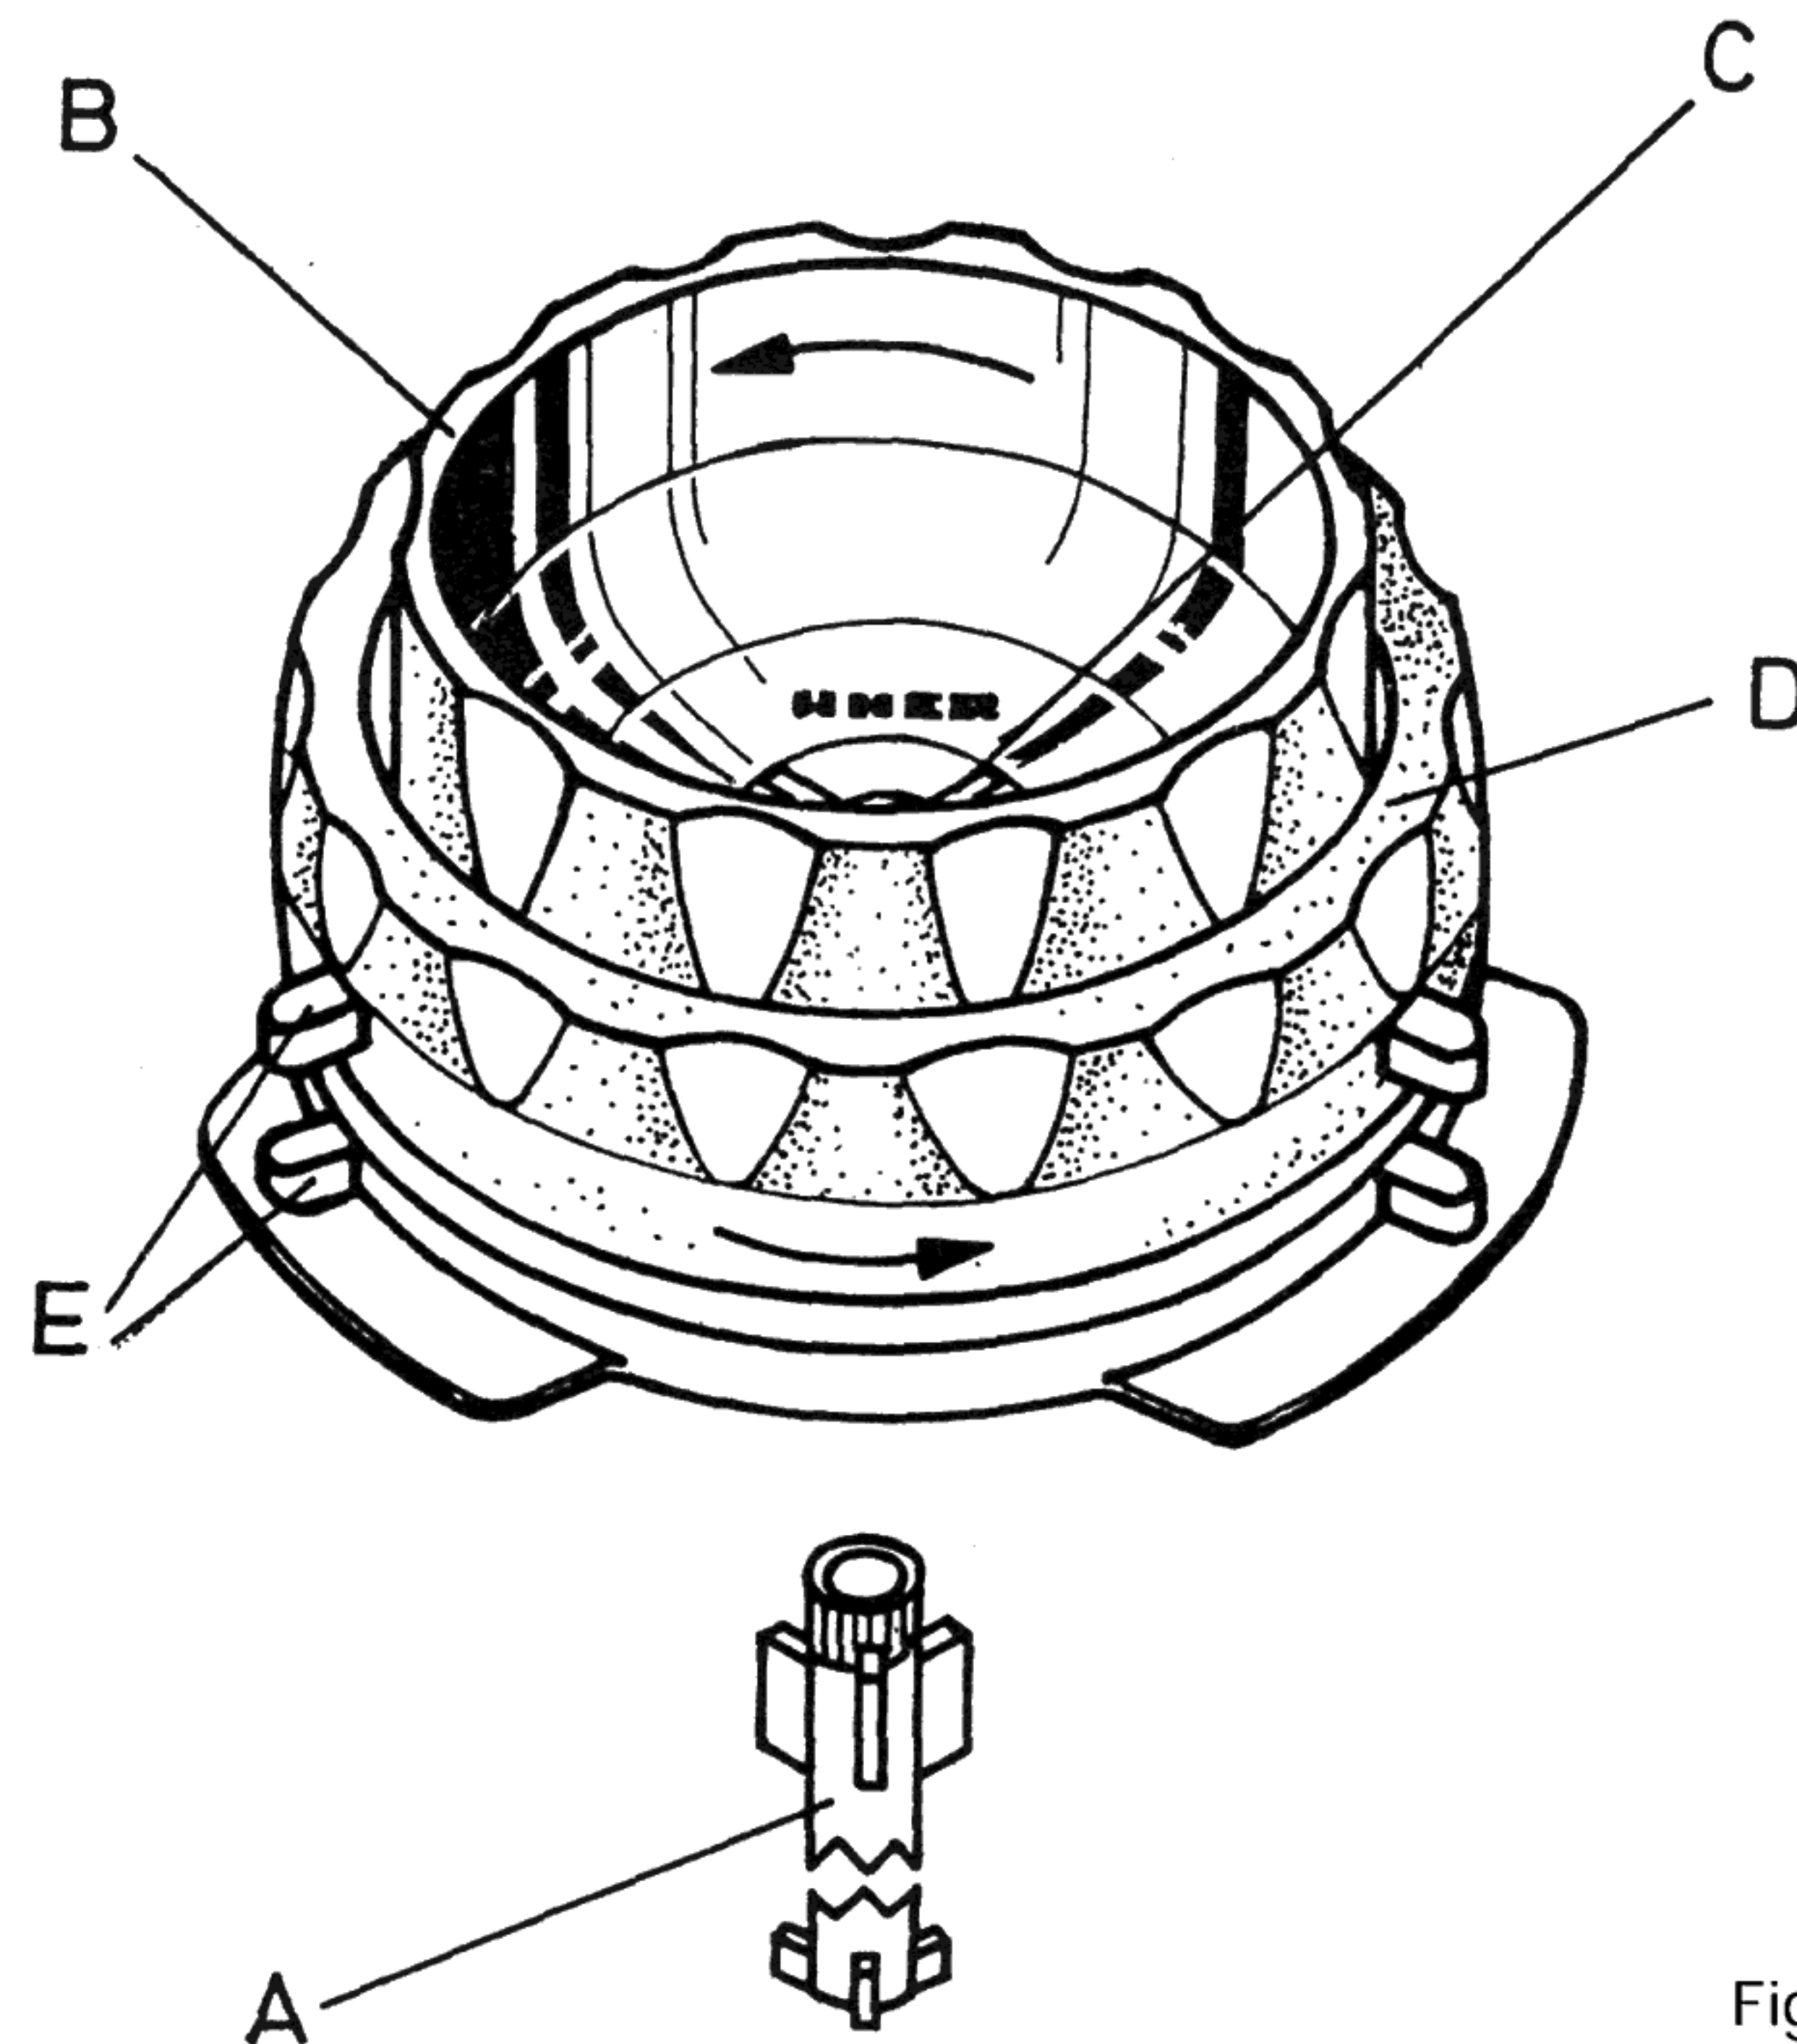
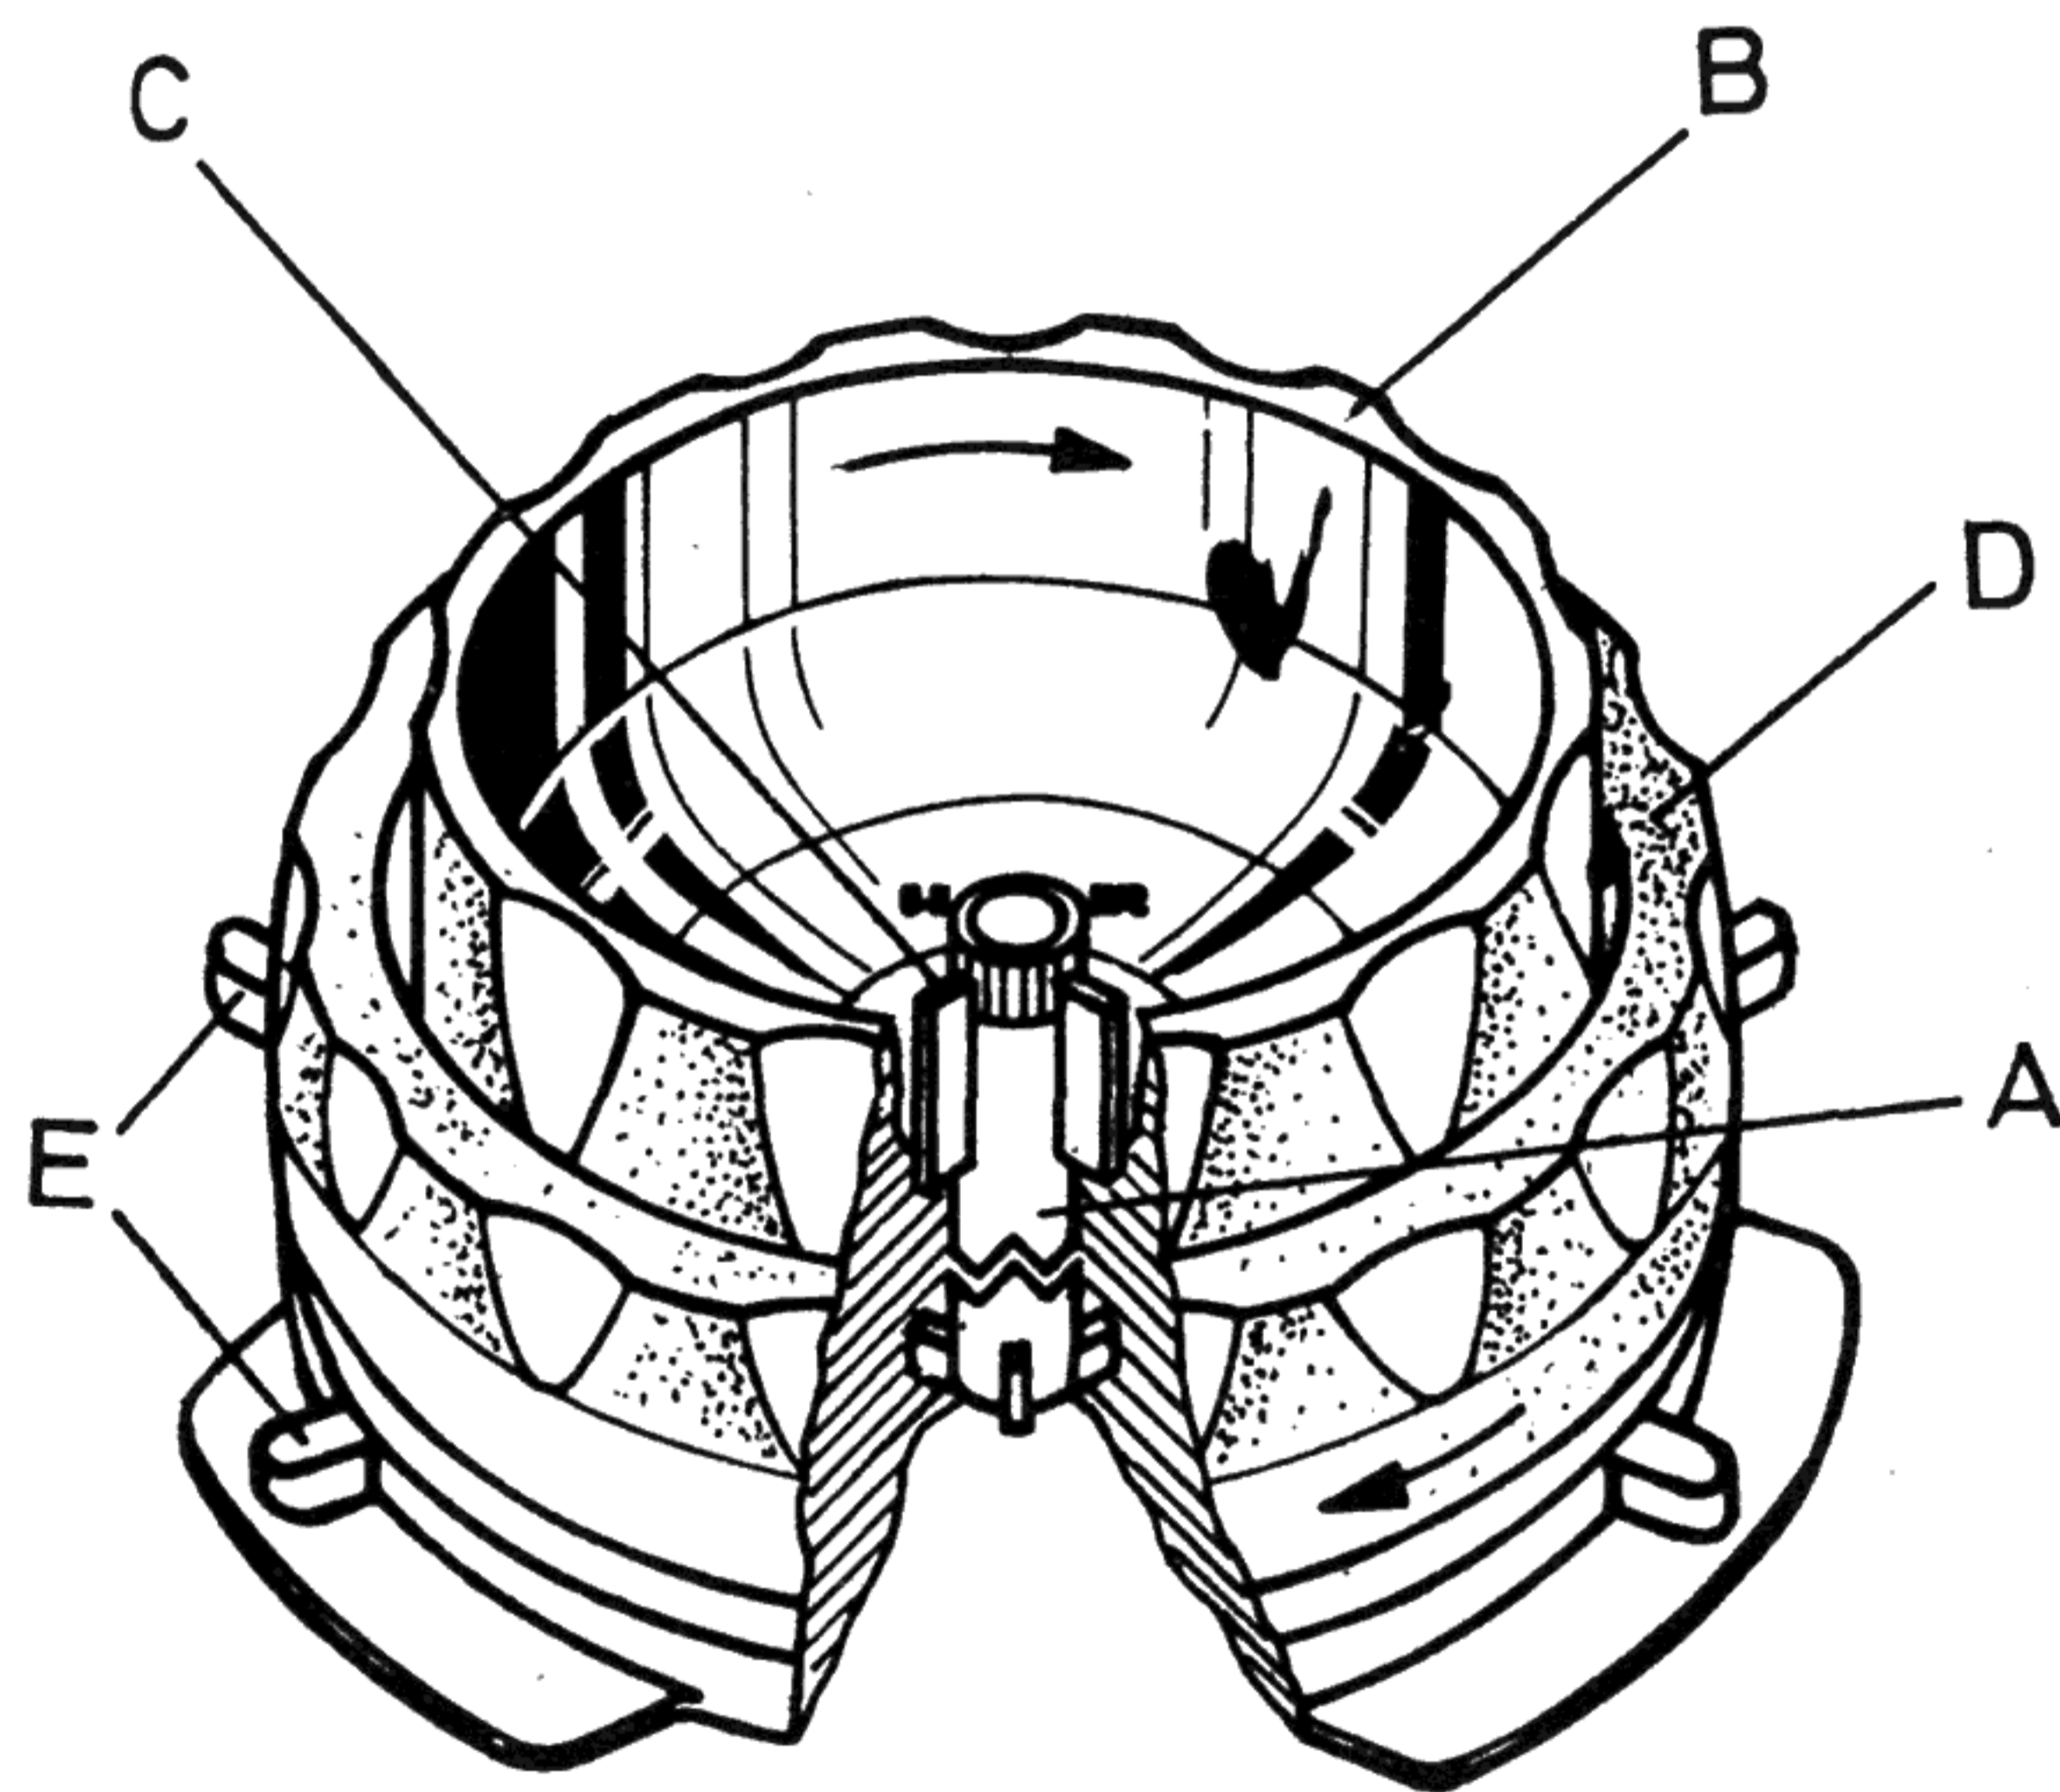

Fig. 2
Fig. 3
The NAB adapter must be carefully placed on the right and/or left hub spindle. First, pull up the three-pronged mandrel (A) of the spindle (see Fig. 2) and turn it until the prongs of the movable section rest on those of the stationary section. The inner ring (B) of the NAB adapter must also be turned to the left until the clamping jaws (C) for the three-pronged mandrel (A) are opened so wide that the adapter may be easily set upon the spindle. Once the adapter has been set in place (see Fig. 3), the three-pronged mandrel (A) should be turned to the right or to the left until it jumps down into the grooves of the stationary section. The adapter is then prevented from falling off. The inner ring (B) of the clamping jaws should then be turned to the right, closing it until the adapter is tightly secured to the three-pronged mandrel. Tightening the clamping jaws is of particular importance as it will prevent any play between the mandrel and the NAB adapter.
Before placing a 26.5 cm (10½") reel on the NAB adapter, turn the outer ring (D) of the adapter anti-clockwise until the three keys of the movable part of the ring are above those of the lower stationary part (see Fig. 2). The full reel of tape should be placed on the left NAB
adapter, the empty reel on the right adapter. Once the reel is in place, turn the outer ring of the adapter clockwise until a clear stop is felt (see Fig. 3).